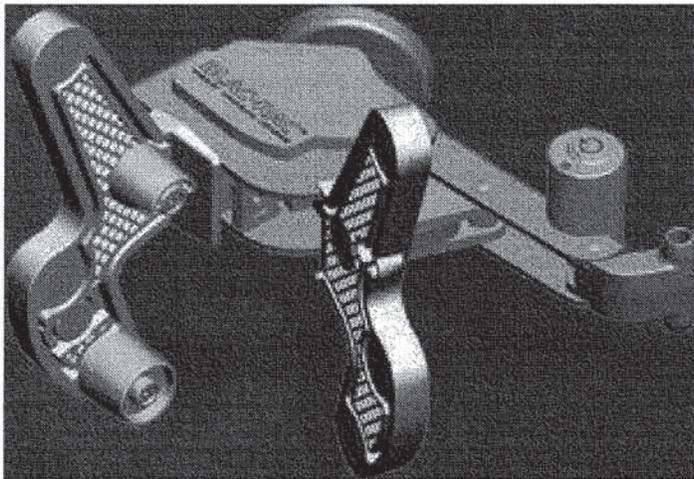

Figure 31 - Blac-Rac™ Model 1070 with Integral Lockset (key type not exactly as shown)
- (1). Installation of this secure rack-type PCVSS requires the Blac-Rac™ Model 1070 Tactical Weapons Rack with External 3/8 inch Hasp and Blac-Rac™ T-Rail System;
- (2). In this configuration the rack ***shall*** be secured with a CF/DND-standard Abloy F283 (Model PL330) high security padlock; and
- (3). The rack ***shall*** be installed on the T-Rail System which will be installed on the equipment tray in such a manner that the carbine is held horizontally;
- b. Blac-Rac™ Model 1070 with Integral Lock:** This secure rack-type PCVSS is currently one of the three models approved for Police Interceptor Sedan marked MP vehicle and is illustrated at *Figure 31* below:
- (1). Installation of this secure rack-type PCVSS requires the Blac-Rac™ Model 1070 Tactical Weapons Rack with Intergral Lock and Blac-Rac™ T-Rail System;
- (2). In this configuration the rack is supplied with an integral high security double-sided (Pagoda style) cam lock. The rack is normally delivered with two identical keys (*Note: This is a proprietary lockset so extra keys cannot be made or copied locally. Key copying and re-keying can only be done by the manufacturer*); and